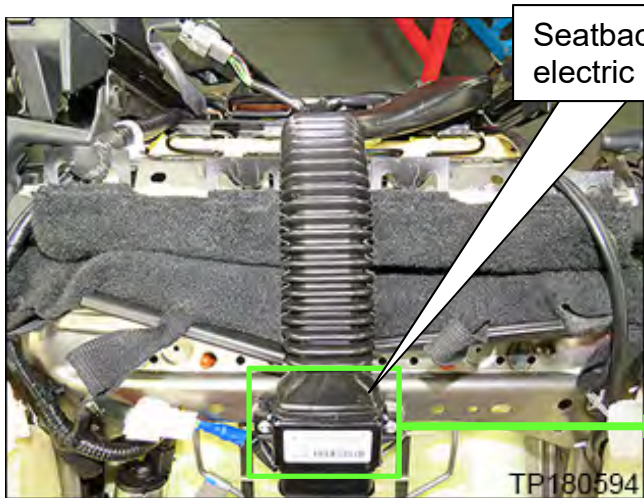

Figure 26
26. If so equipped, confirm that the thermal electric device nozzle is correctly aligned (Figures 26 and 27).